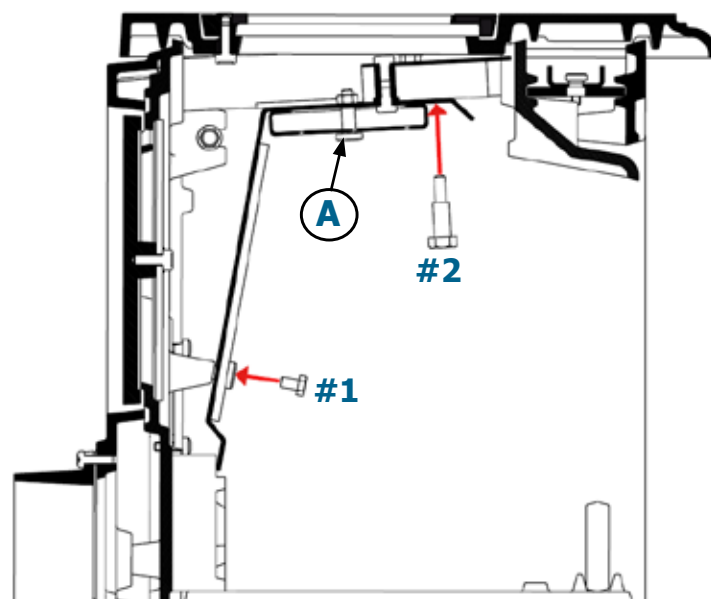

Figure 5 - Replacing the parts
- Refit the flue baffle (see figure 5 and 6).
(figure 5 et 6)